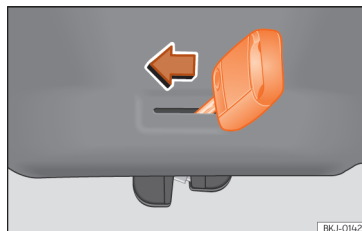

Fig. 58 Luggage compartment: manual release.
- Insert the key blade into the slot and move the key in the direction of the arrow until the lock unlocks >>> **Fig. 58**.